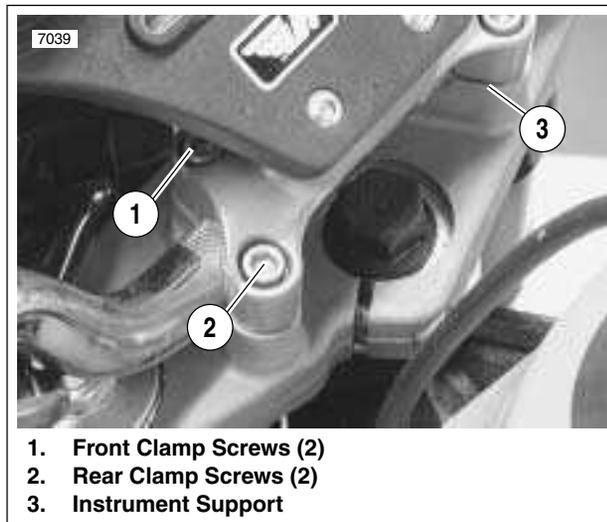
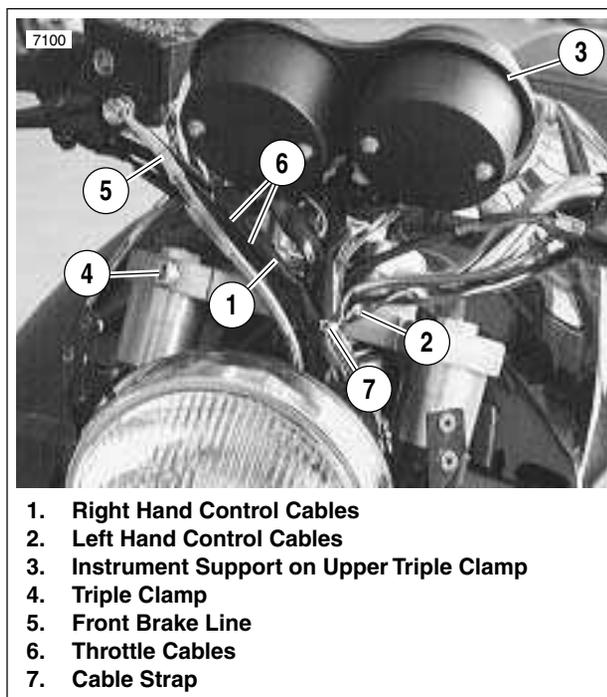

Figure 2-102. Instrument Support Screws
Figure 2-103. Routing Hand Control Wires
6. See Figure 2-102. Remove four screws (1, 2) from instrument support (3).
- a. See Figure 2-102. Lift instruments and place handlebars under instrument support. Loosely install four screws (1, 2).
- b. Tighten both front screws (1) to 10-12 ft-lbs (14-16 Nm).
- c. Then tighten both rear screws (2) 10-12 ft-lbs (14-16 Nm).
- a. See Figure 2-103. Route right hand control wires (1) in front of handlebar and triple clamp (4).
- b. Route left hand control wires (2) in front of handlebar and triple clamp (4).